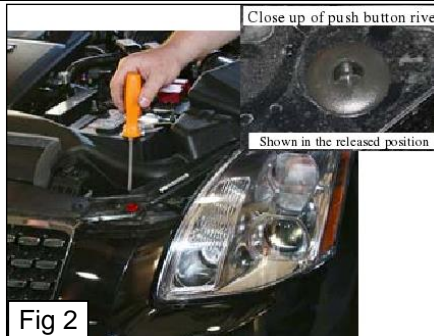

Fig 2
| 3    | Then remove (2) plastic rivets on grille shell shown above in "RED" by pushing in on the inner portion of the rivet to release. Then pry up to remove.(Fig 2)  |  |